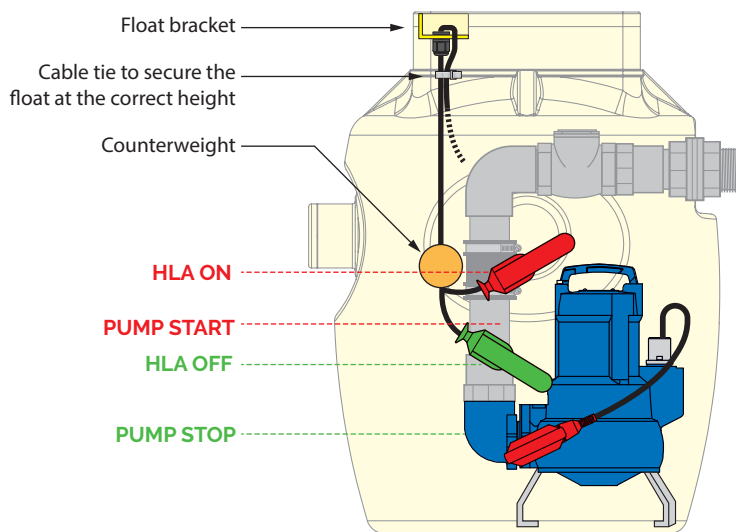

Figure 8a. Setting the switching heights of the sump float in a Delta Foul V3 Packaged Pumping Station.
1. Please ensure you position the sump float switch higher than the primary pump activation point contained within, as shown in Figure 8a, 8b or 8c.